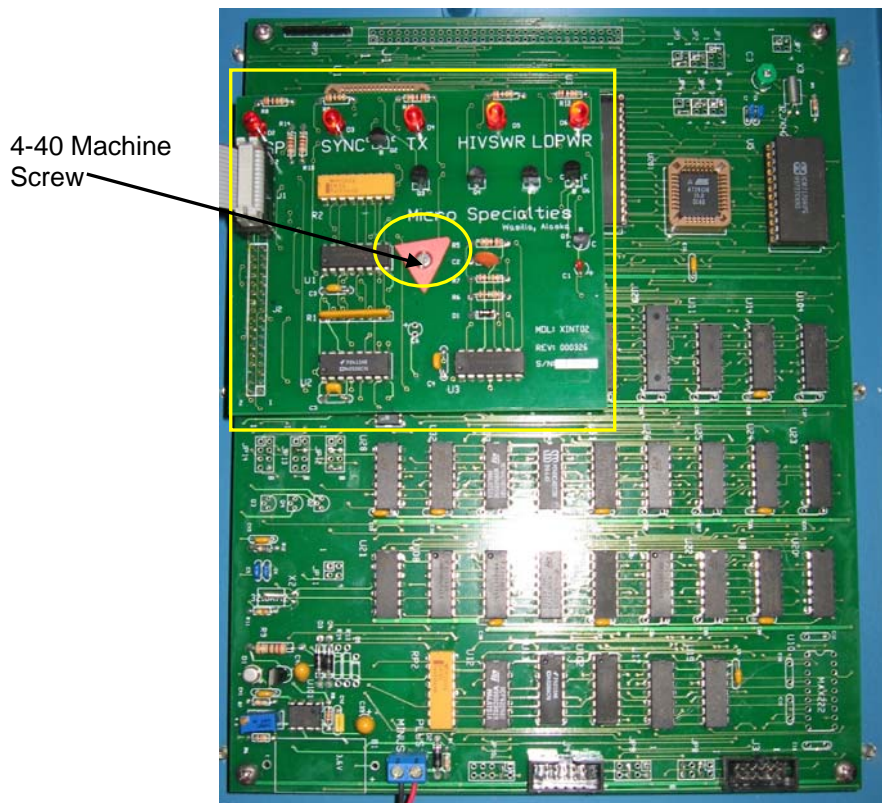

Figure 1 – XINT02 Transceiver Interface
- Some XINT02 PCBs are fastened in place with a 4-40 machine screw near the center of the PCB. If so, remove the screw now. **See Figure 1 above.**